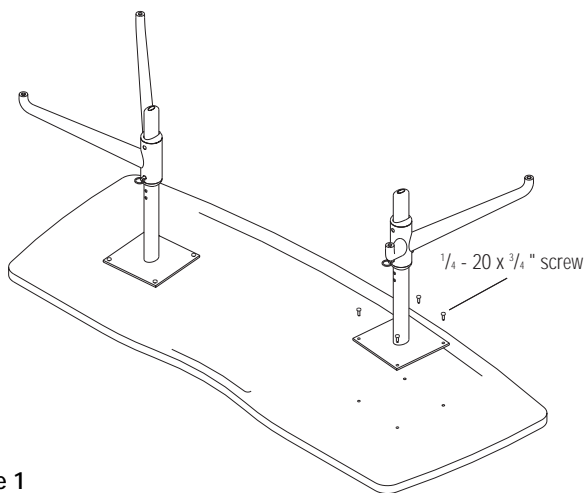

Figure 1
3. Secure the bases on each side using the screws provided (Figure 1).